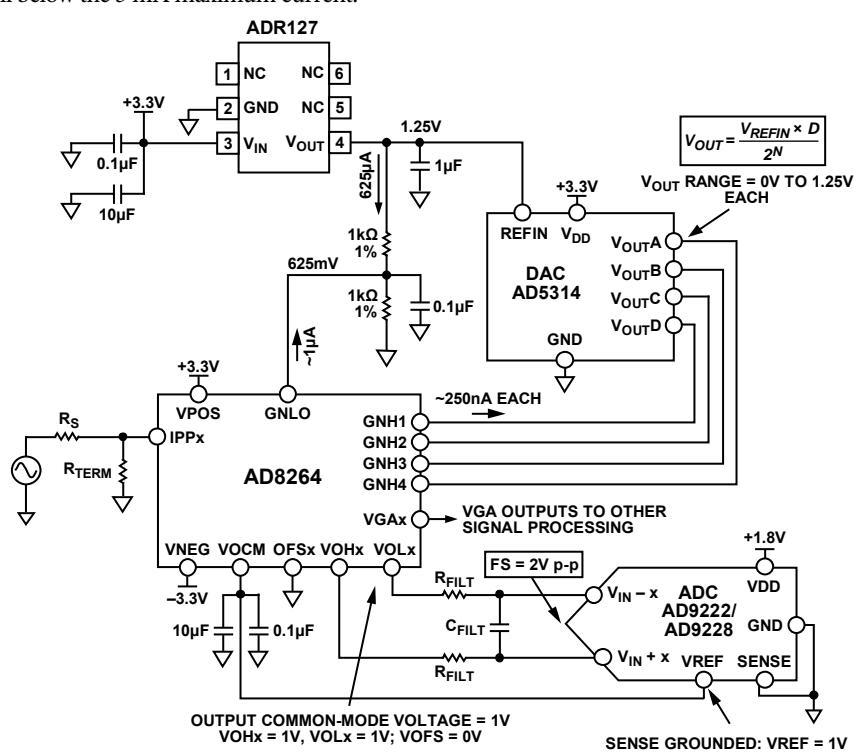
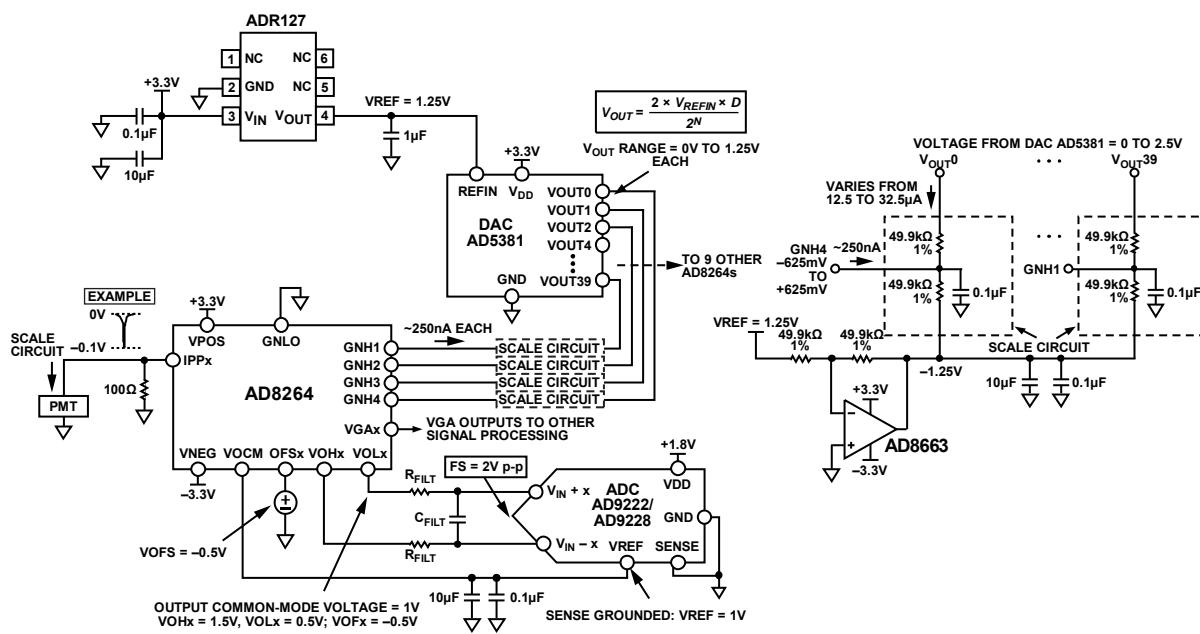

Figure 112. Application Concept of the AD8264 with the AD5314 10-Bit DAC and the AD9222/AD9228 12-Bit ADC
Figure 113. Concept Application of AD8264 with 40-Channel AD5381 12-Bit, 3 V DAC and AD9222/AD9228 12-Bit ADC
The AD8264 is particularly well suited for use in the analog front end of medical PET imaging systems. Figure 112 shows how the AD8264 may be used with the AD5314 (a 4-channel, 10-bit DAC) and the AD9222/AD9228 (an octal or quad, 12-bit ADC, respectively). The DAC sets the gain of the AD8264. Note that the full gain span of 24 dB is achieved with this setup because the gain control input range of the AD8264 is very close to 1.25 V. The GNLO pin must be offset by $1.25/2 = 625$ mV because the gain control input is bipolar around the voltage applied at GNLO. This is done with two $1\text{ k}\Omega$, 1% resistors. The approximately $1\text{ }\mu\text{A}$ of bias current flowing from the GNLO pin does not contribute a significant error because the basic gain error of the AD8264 is the limiting factor.
Figure 112 also includes the DAC output equation, which indicates that the output can vary between 0 V and $V_{REF} = 1.25$ V.
The single-ended-to-differential amplifier of the AD8264 amplifies the VGA output signal by 6 dB and can provide the required dc bias of the AD9222/AD9228, as shown in Figure 112. The ADC is connected with the default internal reference because the SENSE pin is grounded. With this connection, the AD9222/AD9228 VREF pin is an output that provides 1 V; this is then connected to the VOCM input of the AD8264, which sets the output common-mode voltage of the VOHx and VOLx pins to 1 V. This voltage is very close to the recommended optimal value of $VDD/2 = 0.9$ V. With this configuration, the ADC inputs are set to a full-scale (FS) of 2 V p-p.
The dc connected concept example in Figure 113 is an application with the 40-channel **AD5381**, 3 V, 12-bit DAC. The main difference between this example and Figure 112 is that, for the same **ADR127** 1.25 V reference, the full-scale output of the DAC is from 0 V to $2 \times \text{VREFIN} = 2.5$ V. Two options for gain control include the following:
- Use the same circuit as in Figure 112 but use only half the DAC output voltage from 0 V to 1.25 V. This is the simplest solution, requiring the fewest extra components. Note that the overall gain resolution increases by one bit to 11 bits over the 10-bit **AD5314**.
- Ground GNLO and scale the DAC output so that the GNHx inputs vary from -0.652 V to $+0.625$ V. Figure 113 shows a possible circuit implementation using a divider between the DAC output and a -1.25 V reference.
Figure 113 shows how the AD8264 is connected in a PET application. The PMT generates a negative-going current pulse that results in a voltage pulse at the preamplifier input and a differential output pulse on VOLx and VOHx.
A convenient method of verifying and customizing the signal chains shown in Figure 112 or Figure 113 is by ordering the corresponding evaluation boards available on www.analog.com. The AD8264-EVALZ is a platform through which the user can quickly become familiar with the features and performance capabilities of the AD8264. See the Evaluation Board section for more information.